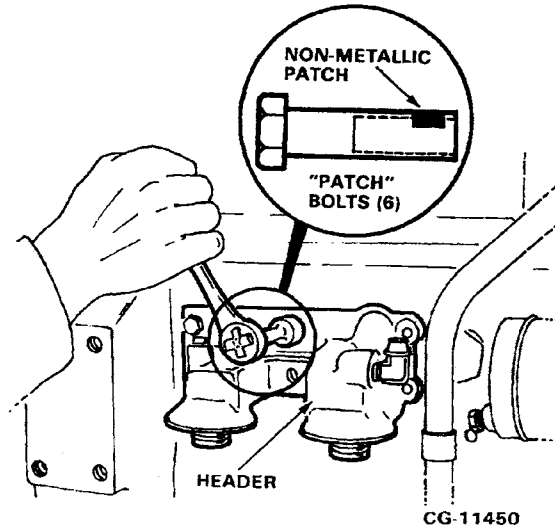

Figure 9.19. Remove Header Retaining Bolts
3. Loosen and remove the six retaining bolts and washers which secure the header to the crankcase. Refer to Figure 9.19.
3. Using a new gasket, install the filter header assembly to the crankcase. Fasten the header using special "patch" bolts to assure proper sealing. Refer to **Figure 9.19**. Tighten to the standard torque. (See Appendix.)